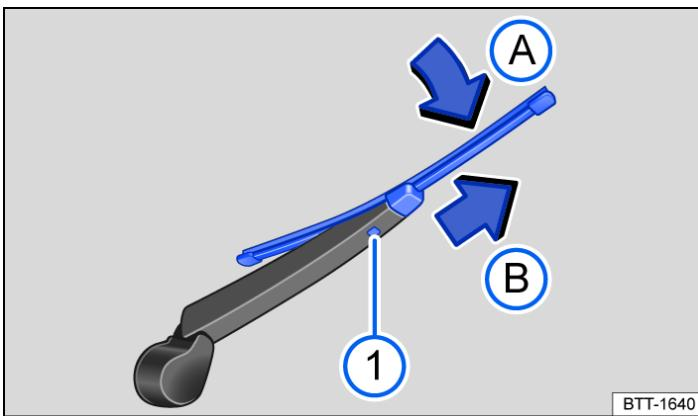

Fig. 2 Changing the wiper blade for the rear window.
① Wiper blade release button.
3. Press and hold the release button → Fig. 2 ①.
4. Tilt the wiper blade in the direction of the wiper arm → Fig. 2 ② A and pull it off in the direction of the arrow ② B at the same time. You may need to use some force to do this.
5. Insert a new wiper blade with the same length and design onto the wiper arm against the direction of the arrow. Push it on until it engages → Fig. 2 ② B. The wiper blade must be in folded-down position to do this → Fig. 2 ② A.